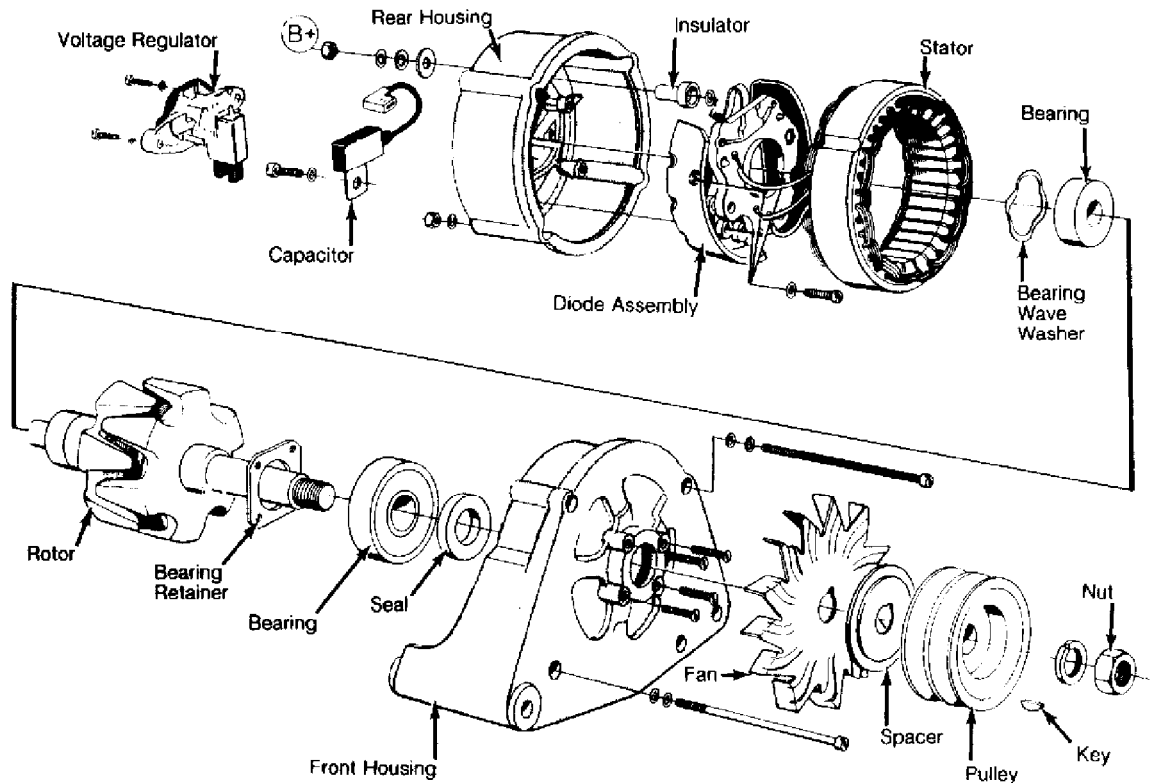

Fig. 1: Exploded View of Bosch 55-Ampere Alternator
2) Disconnect capacitor from terminal. Remove nut, insulator(s), screws and washers. Remove stator assembly. See Figs. 1 and 3. Unsolder stator from diode assembly. Remove bearing wave washer or "O" ring from rear housing.